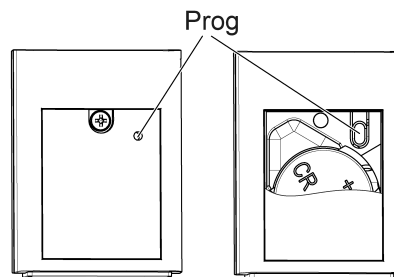

Figure 3: Button **Prog**
The **Prog** (Figure 3) button can be pressed with a thin wire or paper clip through the hole in the battery cover.
- Press the **Prog** (Figure 3) button briefly.